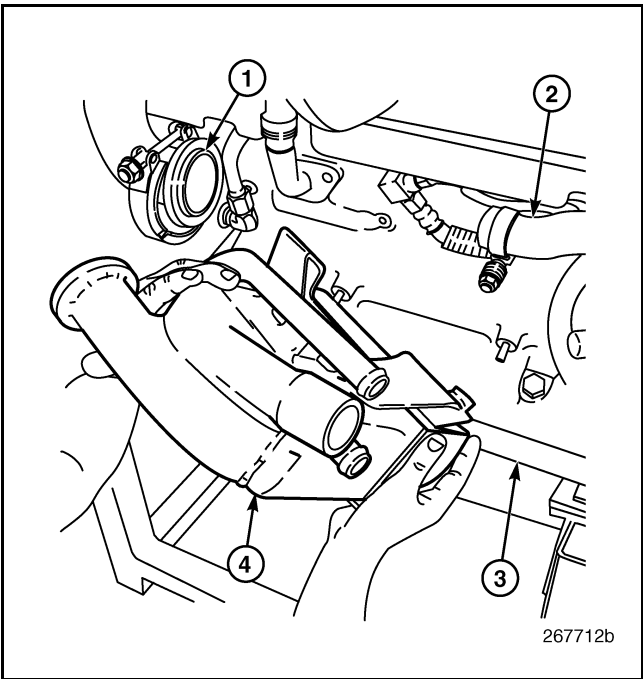

Figure 496 — EGR Cooler Removal
5. Remove the four retaining nuts, two at each side, attaching the cooler assembly to the cylinder block and remove the assembly (Figure 496). Inspect the cooler assembly for damage and test for leaks as required.
1. Place the EGR cooler assembly in position at the right side of the cylinder block (Figure 496). Install the four retaining nuts and tighten to specification.